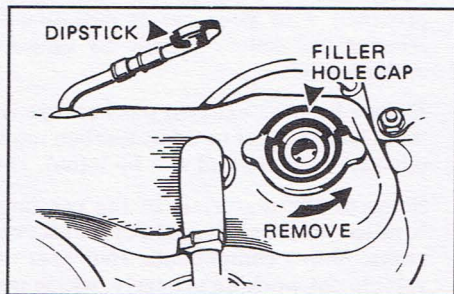

Figure 1 - Top of engine, 4-cylinder
1. The best time to check the engine oil level is when the oil is warm, such as during a fuel stop. Make sure the vehicle is parked on level ground. After stopping the engine, wait a few minutes for the oil to drain back to the oil pan. Then, pull out the dipstick on the front of the engine. See Figure 1 or 2.